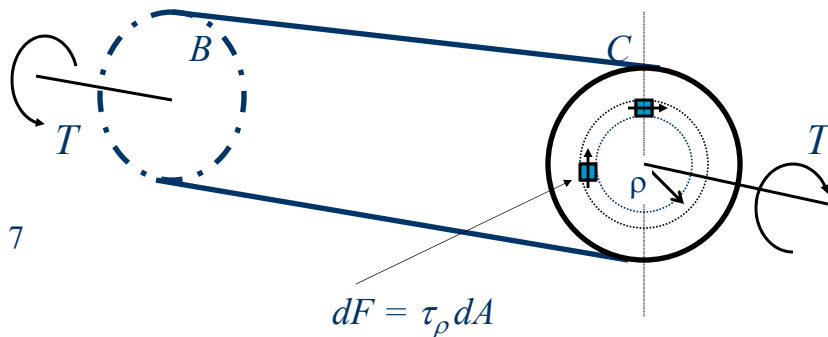

Fig. 7
- If a plane transverse section before twisting remains plane after twisting and a diameter of the the section remains straight, the distortion of the shaft of Figure 7 will be as shown in the following figures (Figs. 8 and 9):